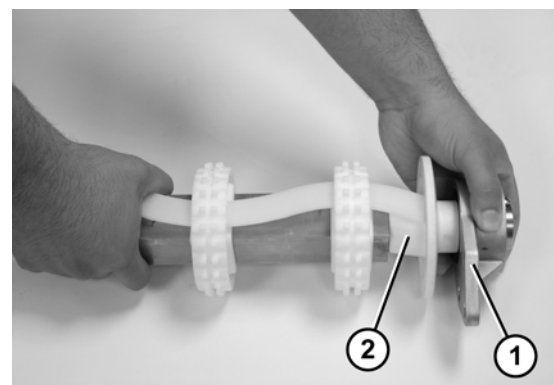

Figure 73
4. Attach the flanged pucks (Figure 73, item 1) and the 3 hole flange with bearing (Figure 73, item 2) to the drive spindle.